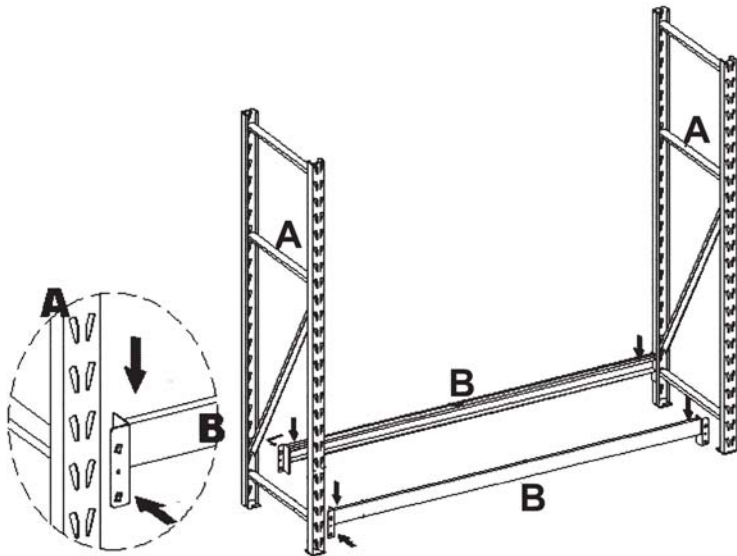

Fig 1
1. Take a beam (B) and attach to one of the upright frames by inserting the two clips on the bracket into the keyholes of the frame column. Present them from the outside.
2. Drive the tabs right to the bottom of the slots by tapping the beam near the joint with a rubber mallet to lock the pieces together as shown in Fig 1.